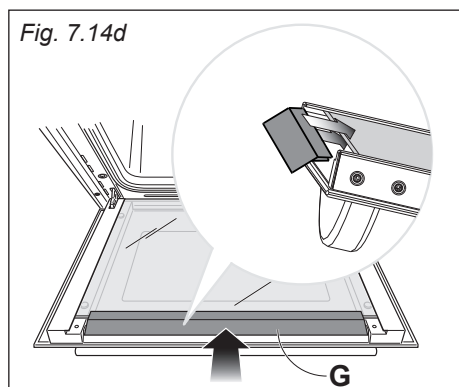

Fig. 7.14d
- Gently push the air deflector "G" back into place (fig. 7.14d).